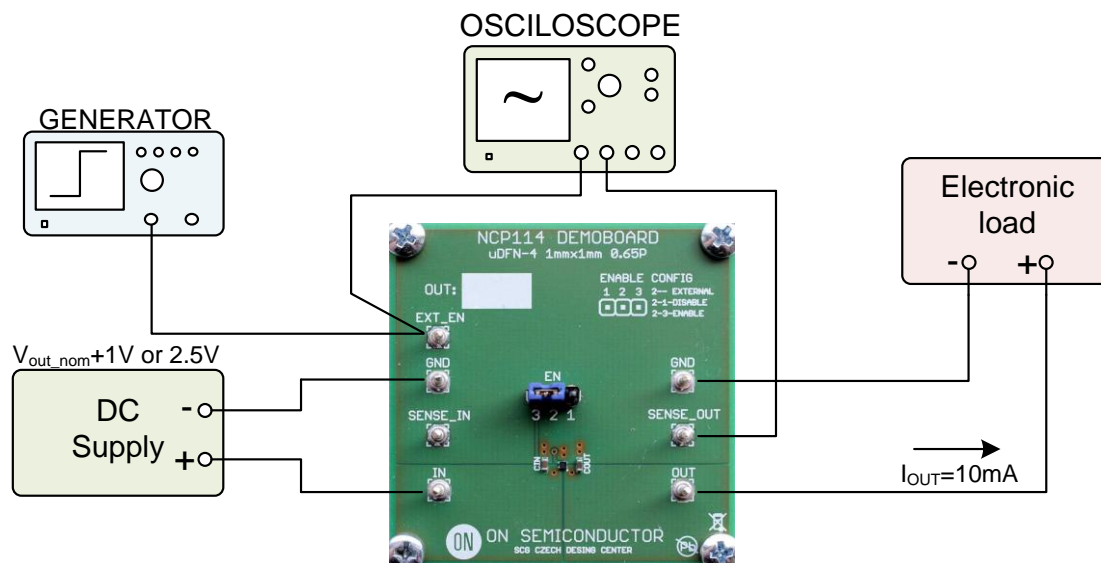

Figure 4: Test configuration for measurement enables response
1. Connect circuit as shown on figure 4